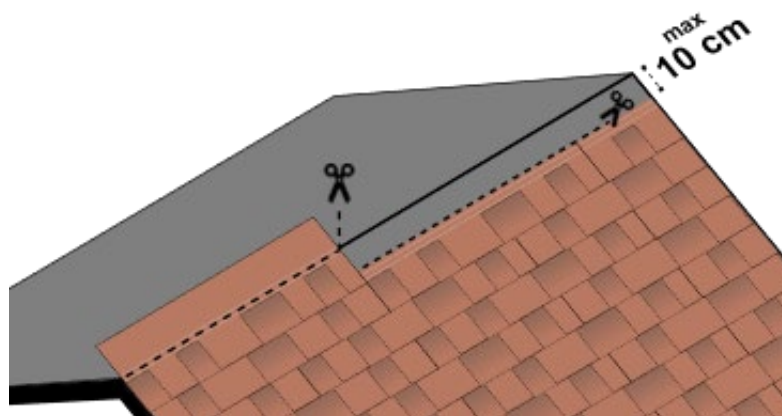

Fig. 19 – Shingles installation until the ridge
- Repeat the same steps for installation of the bituminous shingles in rows, until the entire pitch is covered, leaving the last 10 cm of bituminous membrane at the ridge exposed. If necessary, cut the top of the last row of shingles - Fig. 19.